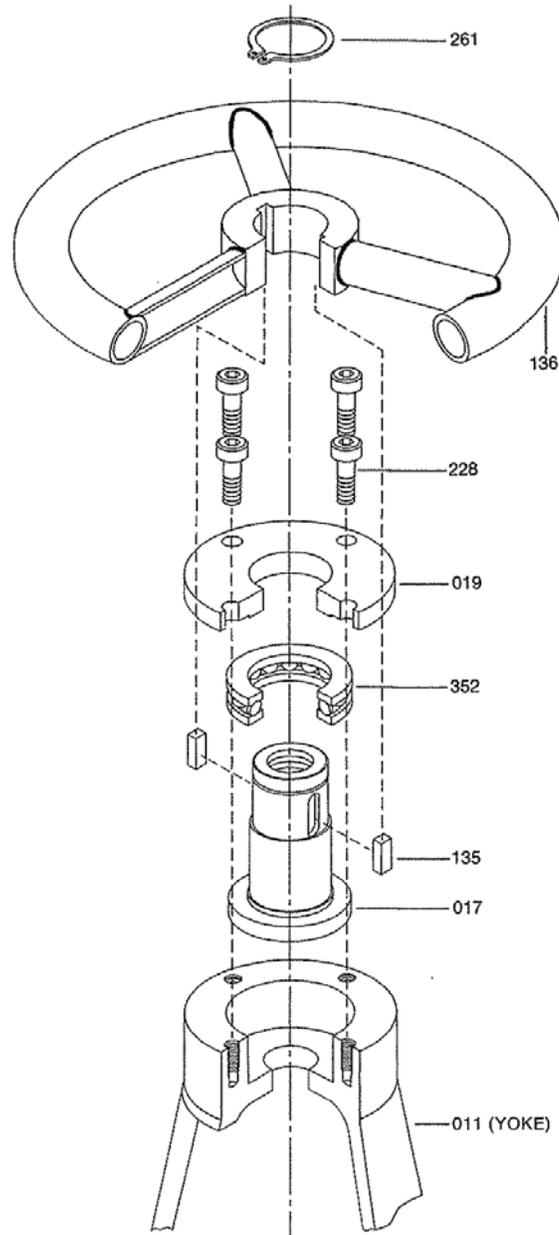

Figure 7
On handwheel actuated valves (Fig. 7) the handwheel can be removed by removing the retaining ring (261) and pulling the handwheel (136) off the yoke sleeve (017). Care should be taken not to lose the handwheel keys (135).